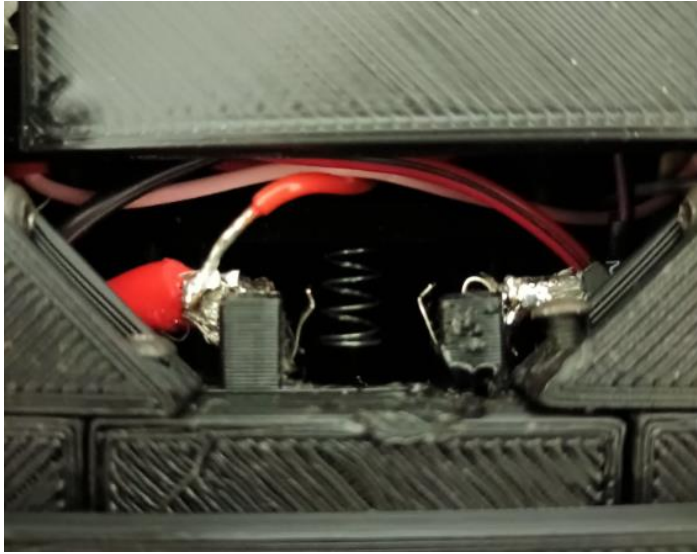
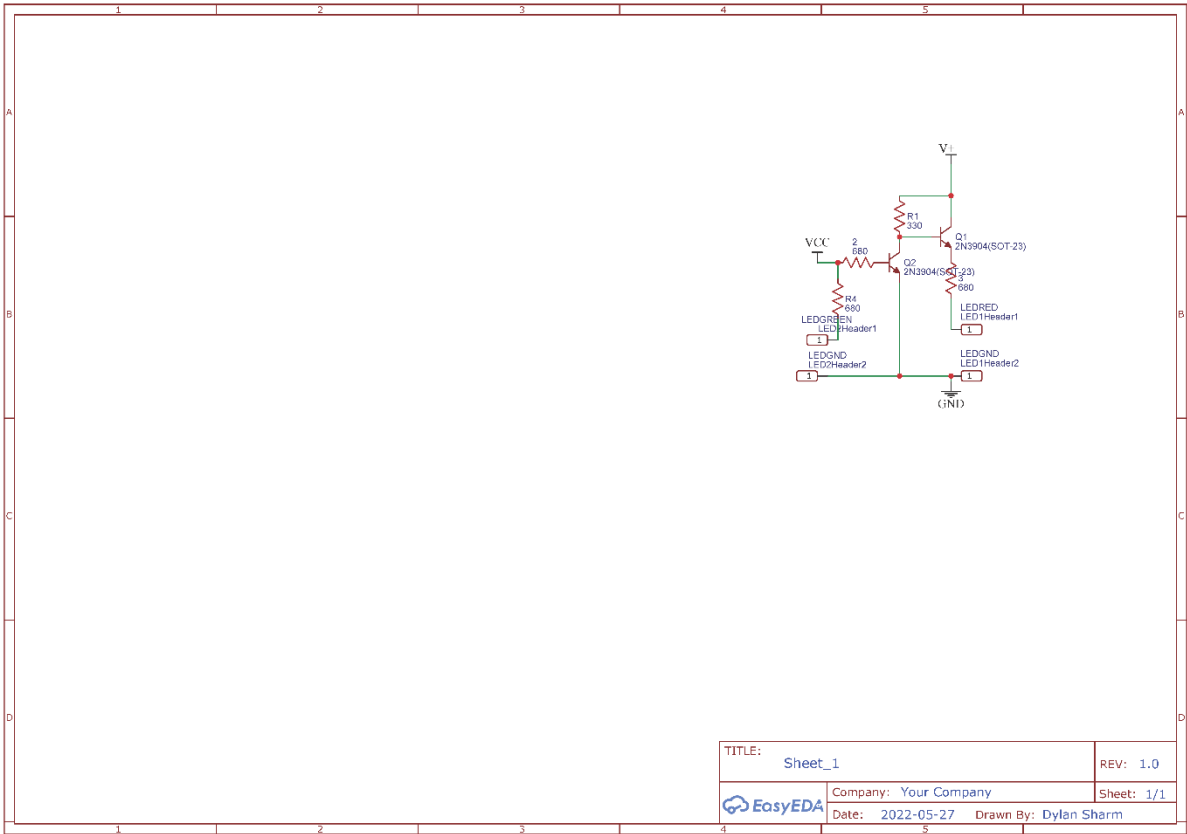

Figure 11
Figure 16 – 14 Electronics Assembly, Power Indicator Wiring Diagram
4. After the battery spring contacts have cooled down, slide the clips on the T-shaped terminals on RM-BH-1 so that that the ends of the spring part of the contacts point towards the front of Hexabot (see **Figure 11**). Based on **Figure 10**, the battery spring contact with the red wire should go on the left terminal and the battery spring contact with the black wire should go on the right terminal.
After the battery spring contacts have been prepared, RM-BH-2 needs to have its spring attached. This can be done by placing the spring in the circular cut in the part in the centre. Then spring can be attached by using the soldering iron to melt the plastic around the base of the spring, stopping it from being unseated (see **Figure 11**).
1. Using all components specified in the parts list for the power indicator circuit, assemble the circuit by following the power indicator wiring diagram (see **Figure 16**). To do this, follow this tutorial on how to solder circuits on perfboard: <https://www.instructables.com/Using-Perfboard/>. The breakout wires VCC, and GND should have wire crimps on them. The V+ wire should be soldered directly to the positive battery frame terminal wire as seen in **Figure 11**. VCC should be attached to the positive power screw and GND should be attached to the negative power screw.